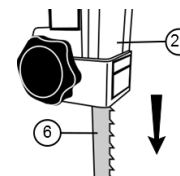

Fig. 5A
Before completing the electrical connection, verify the direction of movement of the band saw (6). When the on button is pressed, the band saw must moves from top to bottom in the sliding bar side (Fig. 5A). If the band saw moves from bottom to top, push the stop button and unplug the equipment. Interchange 2 of 3 in coming power supply wires (Fig. 5B).